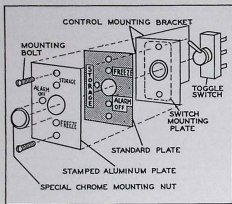

FIGURE 3
1. A stamped aluminum escutcheon plate was placed over the standard escutcheon plate. See Figure 3.
3. Remove and discard the stamped aluminum escutcheon plate. See Figure 3.
6. Remove the switch mounting plate. See Figure 3.